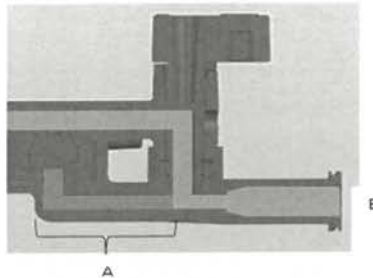

Figure 1: Cross-sectional side-view of the Transducer port of the Pressure
female luer lock fitting on the lumen from the backside of the transducer and below the Flush Valve. The transducer port is at reference point B of figure 1. Make this connection tight but do not over tighten.
- 3) **Caution: the section of lumen between the underside of the sensor and the underside of the stopcock does not need to be fluid filled. [Refer to section A in Figure 1.]**